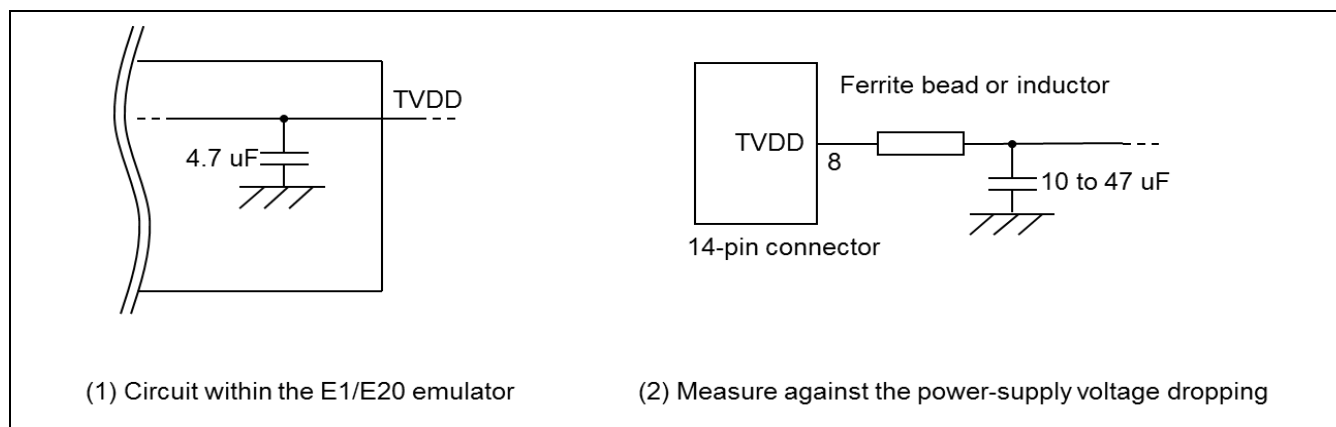

Figure 2-8 Circuit Configuration for Hot Plug-in
If there is a possibility you will be using hot plug-in connection, you will need to configure the circuit as shown below. Pin 8 of the E1 emulator is connected to a 4.7-μF capacitor as shown in (1) in Figure 2-8, so hot plug-in connection of the emulator may lead to a momentary drop in the power-supply voltage on the user system. This might cause the MCU to be reset.
As shown in (2) in Figure 2-8, this effect can be reduced by placing a ferrite bead (or inductor) and relatively large capacitor with low equivalent series resistance near the TVDD line of the connector for connection of the emulator. However, this measure will not completely eliminate the voltage drop. Note that hot plug-in connection is only for use during debugging, and a separately sold hot plug-in adapter is necessary to use this function otherwise.